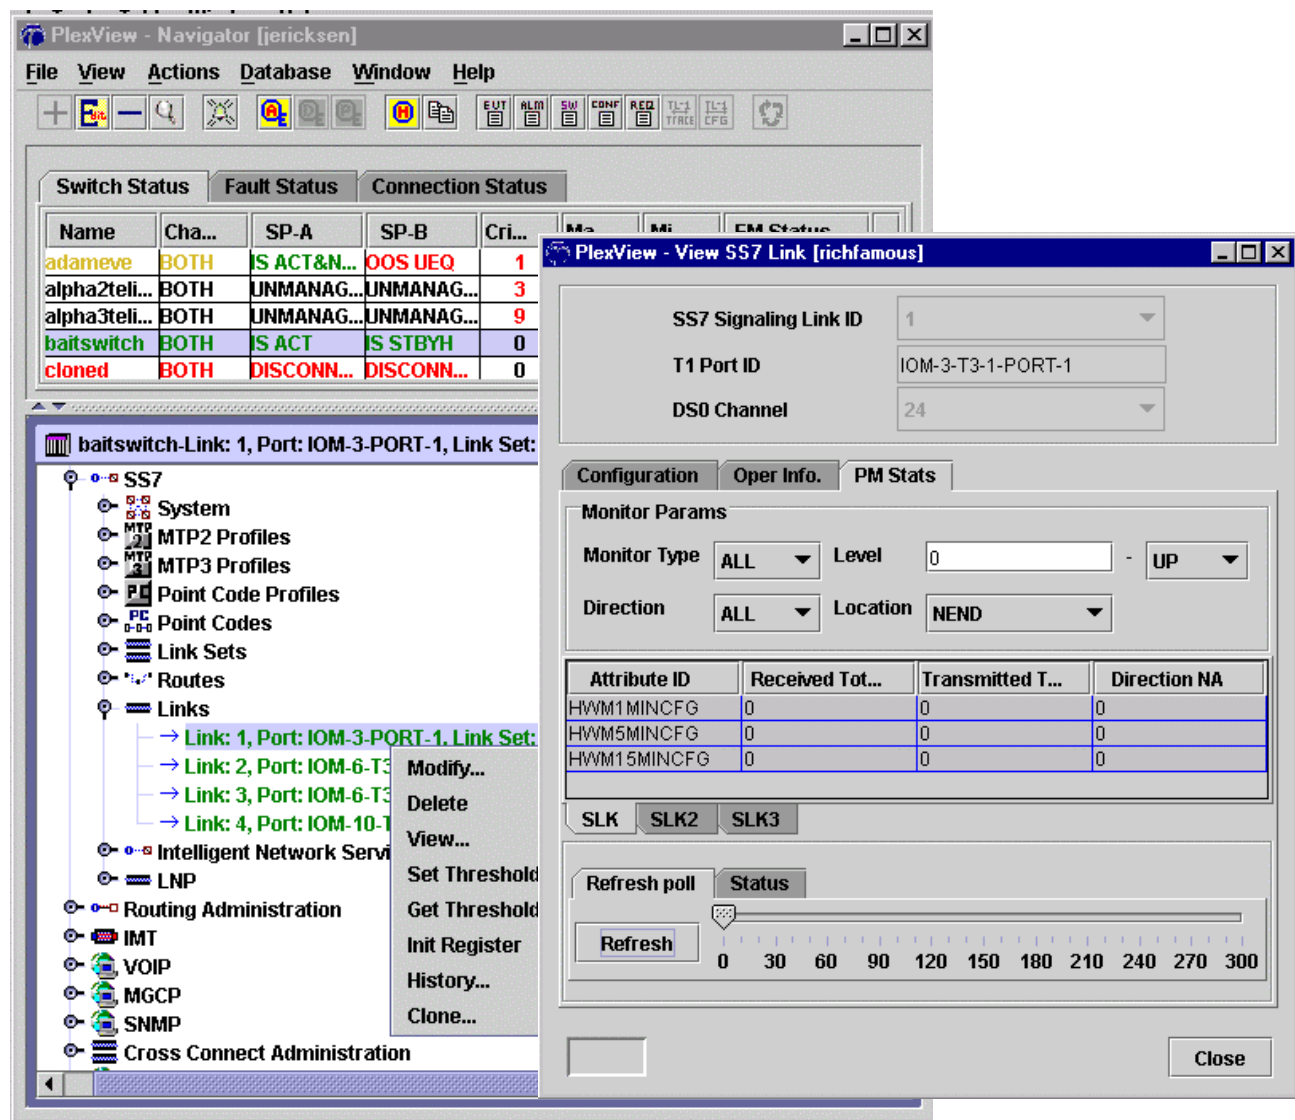

Figure 2. PM Data of a Signaling Link
8. Retrieve current and historical performance data for signaling link. Retrieve status of a signaling link. Double-click the switch, *SS7* and *Links*. Right-click the *link*, click *View* and then select *Oper. Info* tab. See Figure 2.